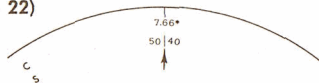

Figure 22
**Example:**  $\cos 40^\circ = 0.766$  (Figure 22)